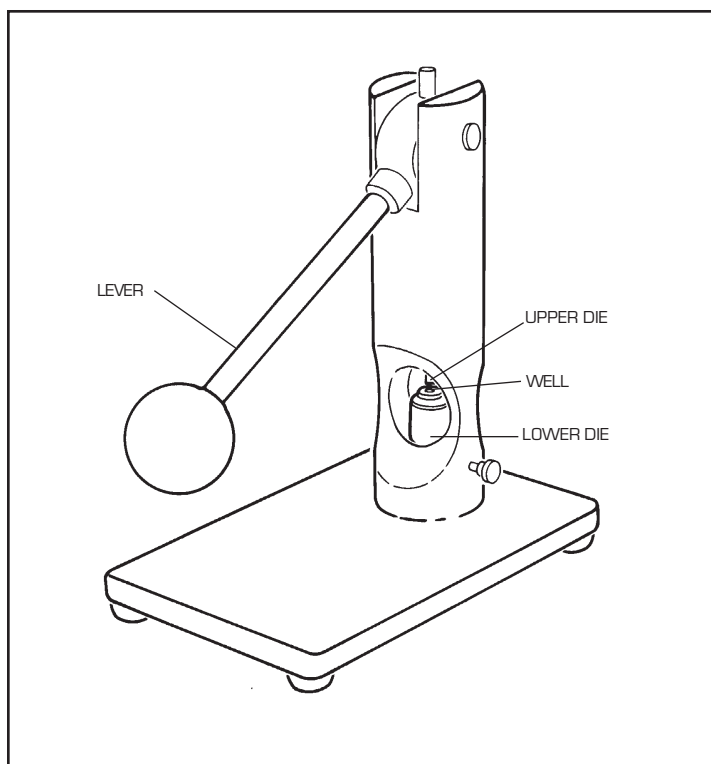

Figure 5.13
4. Place the pan in the well of the lower die of the Sample Encapsulating Press (see Figure 5.13).